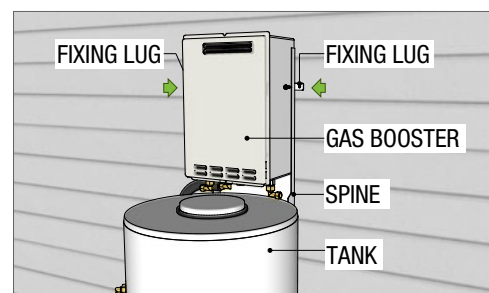

Fig 2
2. Fix the system into position by fastening through the two fixing lugs either side of the gas booster (Fig 2) using appropriate fixings to suit building substrate